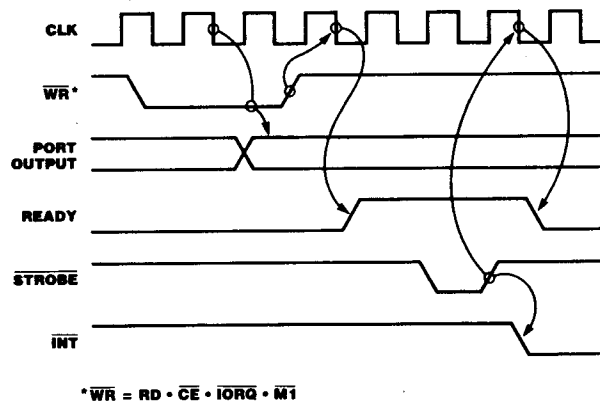

Figure 14. Mode 0 Output Timing
**Output Mode (Mode 0).** An output cycle (Figure 14) is always started by the execution of an output instruction by the CPU. The  $\overline{WR}^*$  pulse sets the Ready flag after a Low-going edge of CLK, indicating data is available. Ready stays active until the positive edge of the strobe line is received, indicating that data was taken by the peripheral. The positive edge of the strobe pulse generates an  $\overline{INT}$  if the interrupt enable flip-flop has been set and if this device has the highest priority.